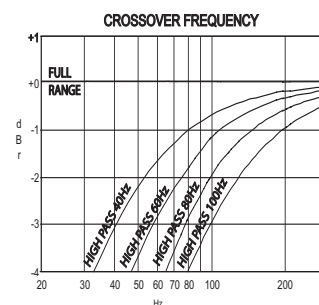

FIGURE 8
9. biamp (crossover frequency selection): If one uses smaller shelf-type speakers, in conjunction with a powered subwoofer (refer to **PRE OUT 2** section under Rear Panel Connections and Controls), the M3 allows the configuration of the speaker crossover frequency to match the bass response of the speakers. Press the **biamp** button to toggle through the filter sequence. A press longer than one second will advance the crossover frequency selection as follows; BIAMP CROSSOVER FULL RANGE, HIGH PASS 40 Hz, HIGH PASS 60 Hz, HIGH PASS 80 Hz, HIGH PASS 100 Hz, and then return to FULL RANGE. Release the **biamp** button to stop the sequence. See figure 8 examples of the crossover frequency response diagram. For connection of a subwoofer see Rear Panel Connections and Controls; **PRE OUT 2**.